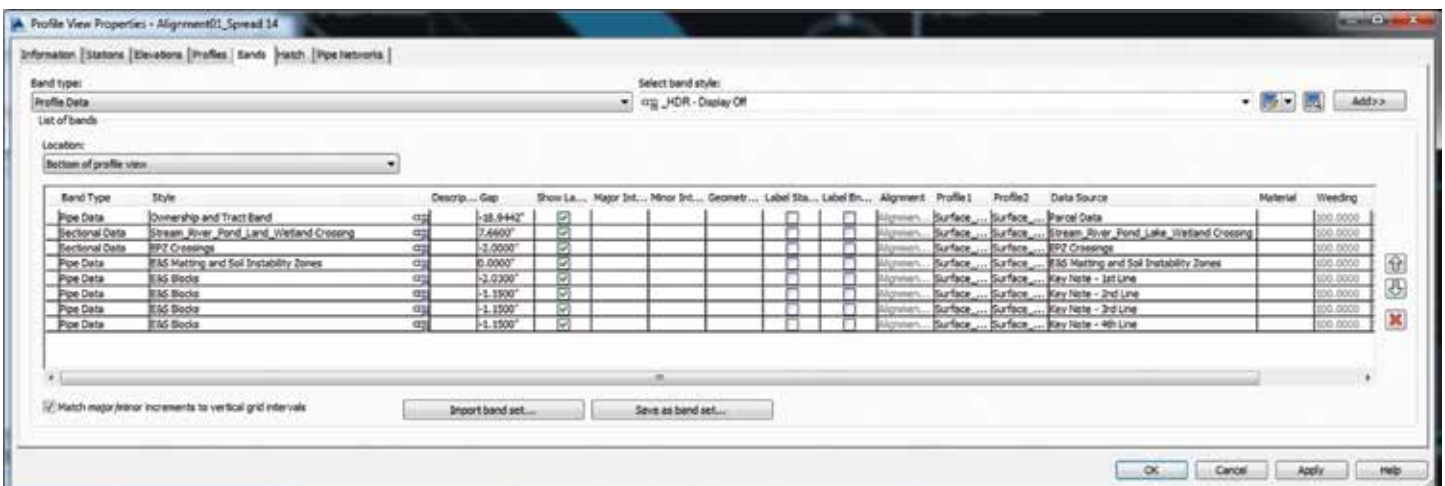

Figure 9: Final Band Set dialog box
- Final Band Setup should look like Figure 9.